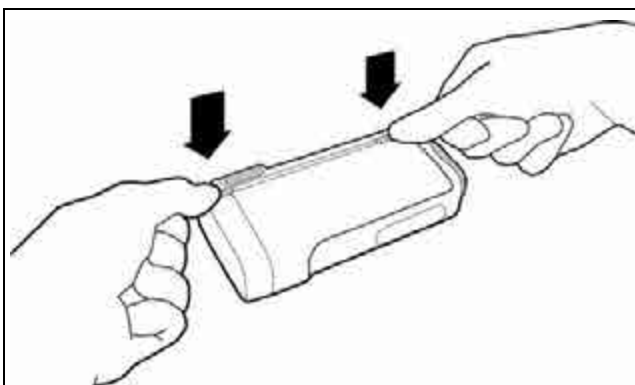

FIGURE 10-11 Securing the Patient Cable
2. Route the cable in the channel on the back of the unit. The channel regions (shown in FIGURE 10-11) should also be pressed firmly to ensure that they are properly placed.